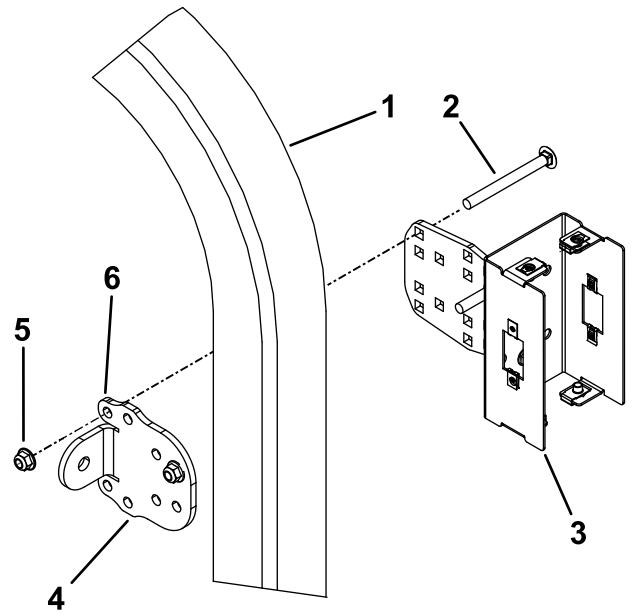

Figure 5
9. Using the holes used by the U-bolt, assemble the light assembly to the roll bar with existing sun-shade bracket, 4 carriage bolts (3/8 x 3, 4 or 5 inches), and 4 flange locknuts (3/8 inch); refer to Figure 5.